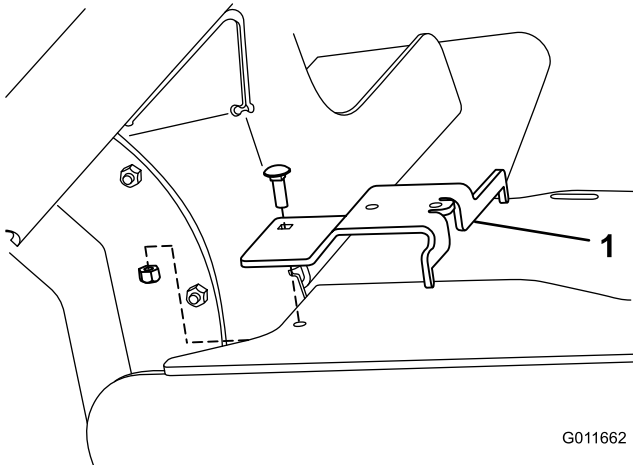

Figure 13
- Using a carriage bolt (5/16 x 1 inch) and locknut (5/16 inch), install the manifold bracket to the trencher frame in the hole that you opened when you removed the hose clamp (Figure 13).